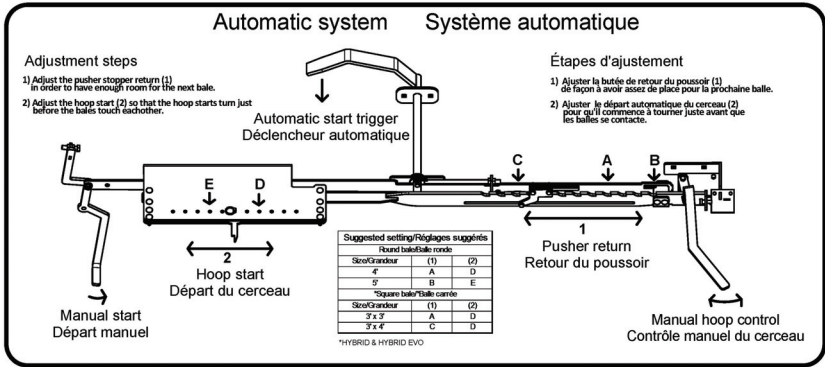

Figure 7.1 Automatic system
On the other hand, you may simply want to add one or two additional layers where the separate bales meet in order to have a more airtight and more solid continuous bale row without adding extra plastic film everywhere. In this case, you must move the pointer towards the rear (Figure 7.1). This pointer is controlled by the pusher lever and releases the hoop. This causes the hoop to begin wrapping a bit earlier. You can also move the pointer forwards to achieve the opposite effect.
- Adjust the pusher stopper return (1)(Figure 7.1) in order to have enough room for the next bale.
- Adjust the hoop start (2)(Figure 7.1) so that the hoop starts turn just before the bales touch each other.